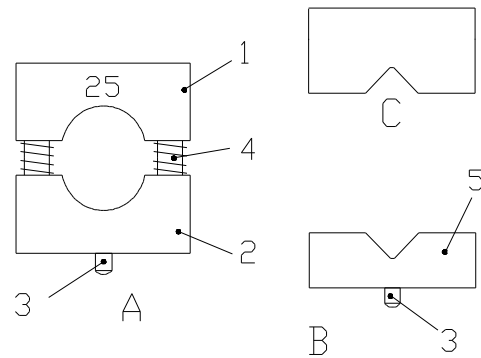

Fig. 39
To cut round specimens, the insert for round specimens (fig. 39.A) with defined diameters of 6, 15 and 25 mm (special sizes on request) or the V-insert (fig. 39.B) can be clamped into the standard specimen clamp.
- To fasten the V-distance piece (fig. 39.C) on the fixed jaw (fig. 38.2) of the standard specimen clamp, the clamping screw (fig. 38.3) must be unscrewed from the spindle. Pull the spindle off the clamp.